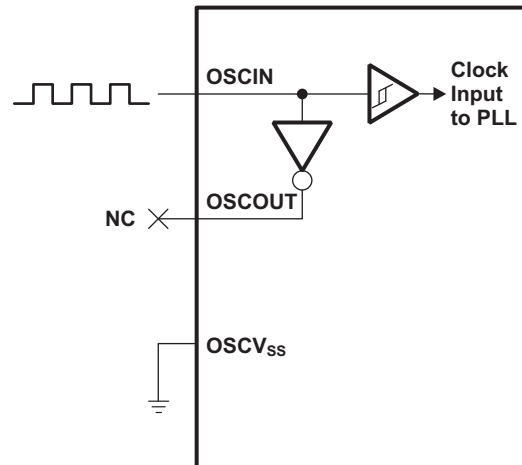

Figure 6-7. External 1.2V Clock Source
The OMAP-L137 device includes two choices to provide an external clock input, which is fed to the on-chip PLL to generate high-frequency system clocks. These options are illustrated in Figure 6-6 and Figure 6-7. For input clock frequencies between 12 and 20 MHz, a crystal with 80 ohm max ESR is recommended. For input clock frequencies between 20 and 30 MHz, a crystal with 60 ohm max ESR is recommended. Typical load capacitance values are 10-20 pF, where the load capacitance is the series combination of C1 and C2.
- Figure 6-7 illustrates the option that uses an external 1.2V clock input.